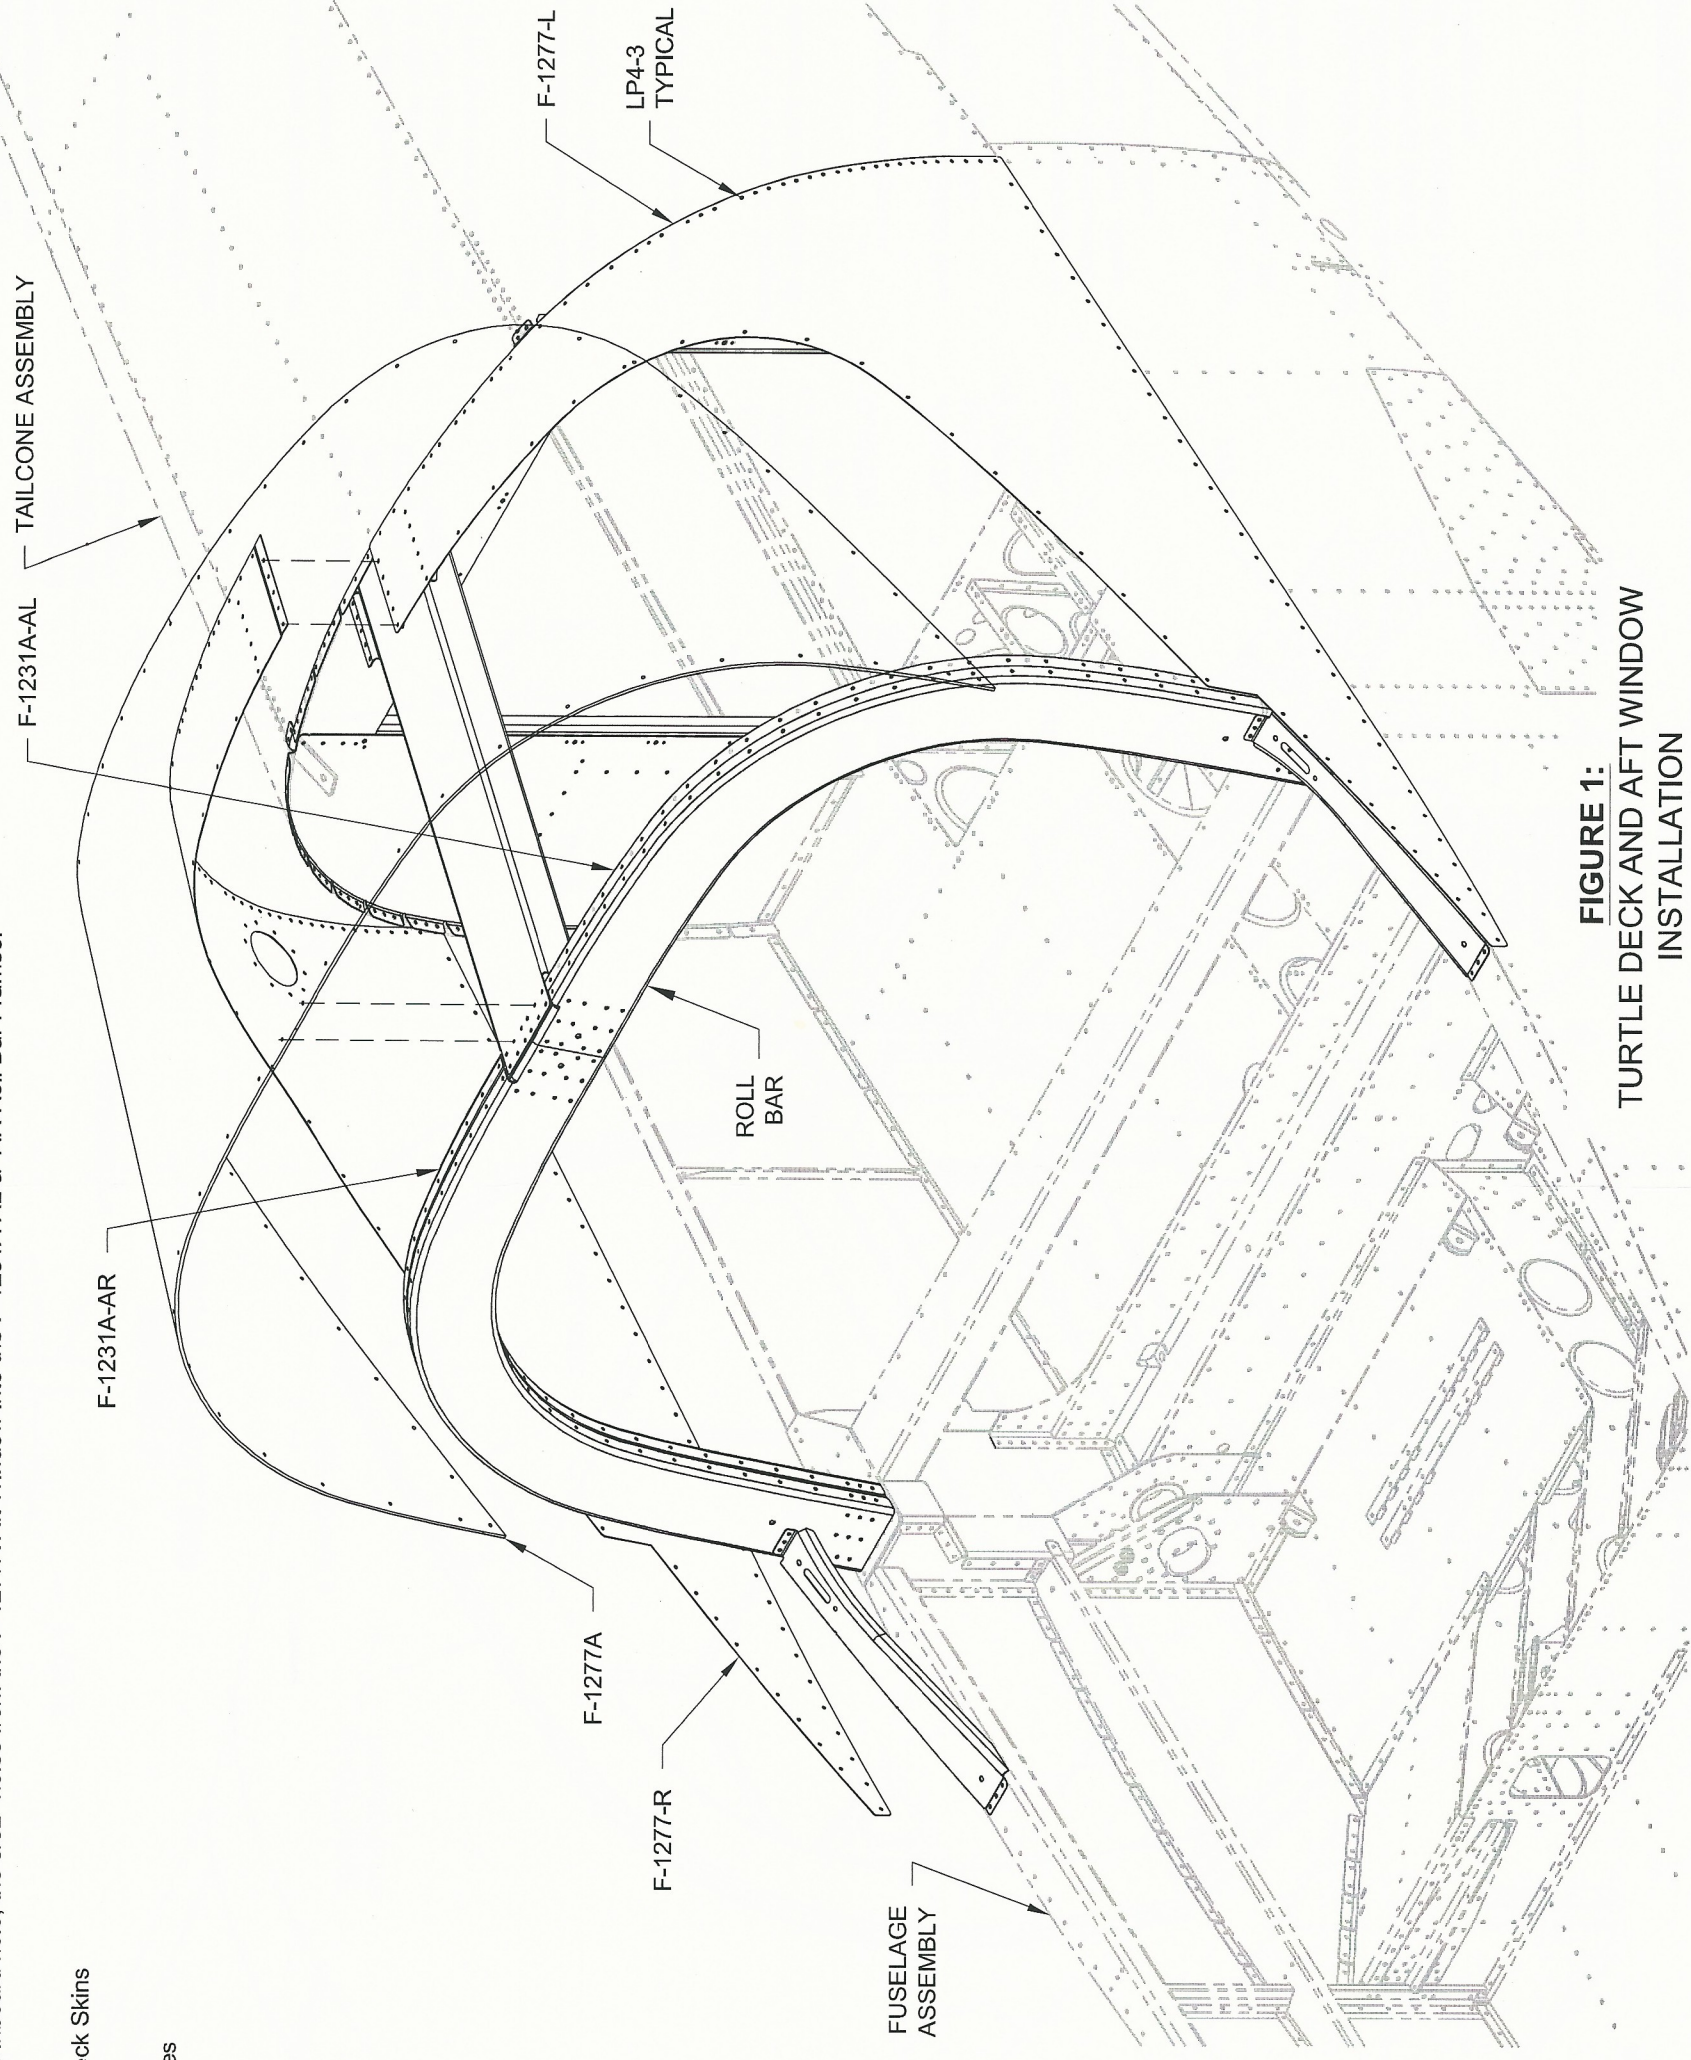

FIGURE 1:
Step 1: Cleco the F-1277-L & -R Fwd Turtle Deck Skins to the Fuselage and Tailcone Assembly as shown in Figure 1.